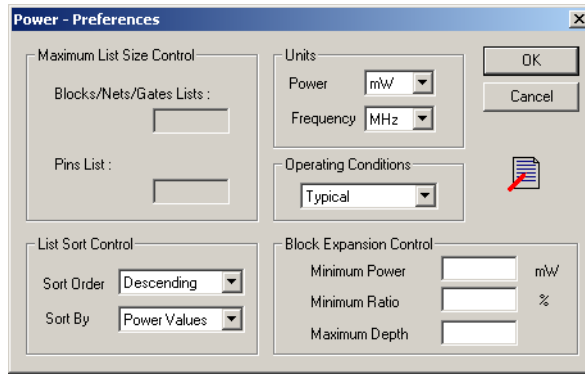

Figure 2-46. Power Preferences Dialog Box
3. For additional Power Report Options, click the *Options* to open the Power Preferences dialog box, as shown in Figure 2-46.